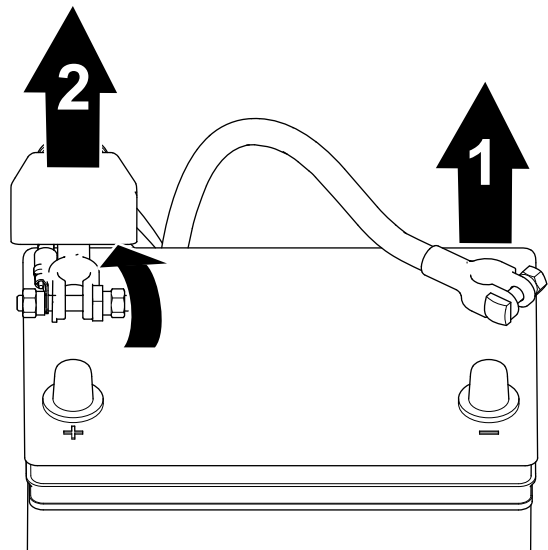

Figure 38
2. Remove the negative battery cable from the battery post (Figure 38).
3. Lift the insulator and remove the positive battery cable from the battery post (Figure 38).